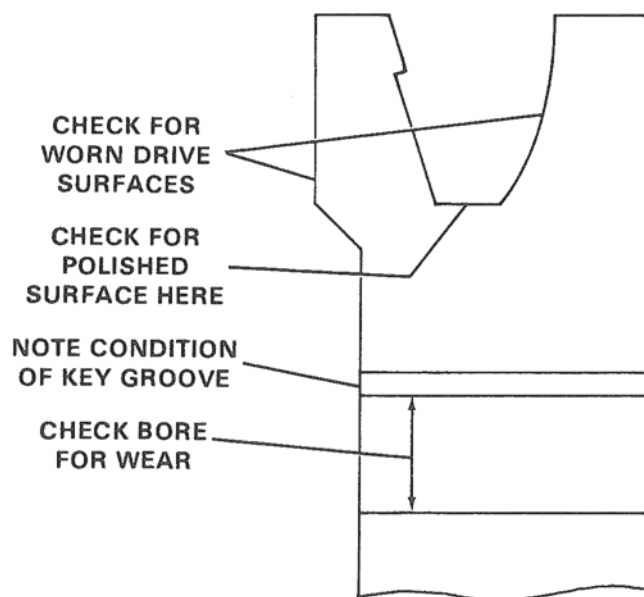

Figure 17. Inspecting Pulley.
4. Inspect pulley for defects. Figure 17.